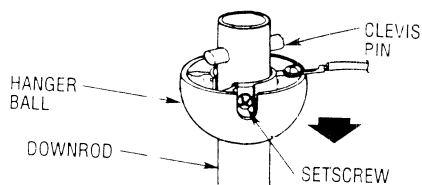

Figure 2
- Loosen the setscrew in the hanger ball, slide the ball down the hanger pipe, and remove the clevis pin. Then slide the hanger ball off the hanger pipe (Figure 2). Retain all parts.